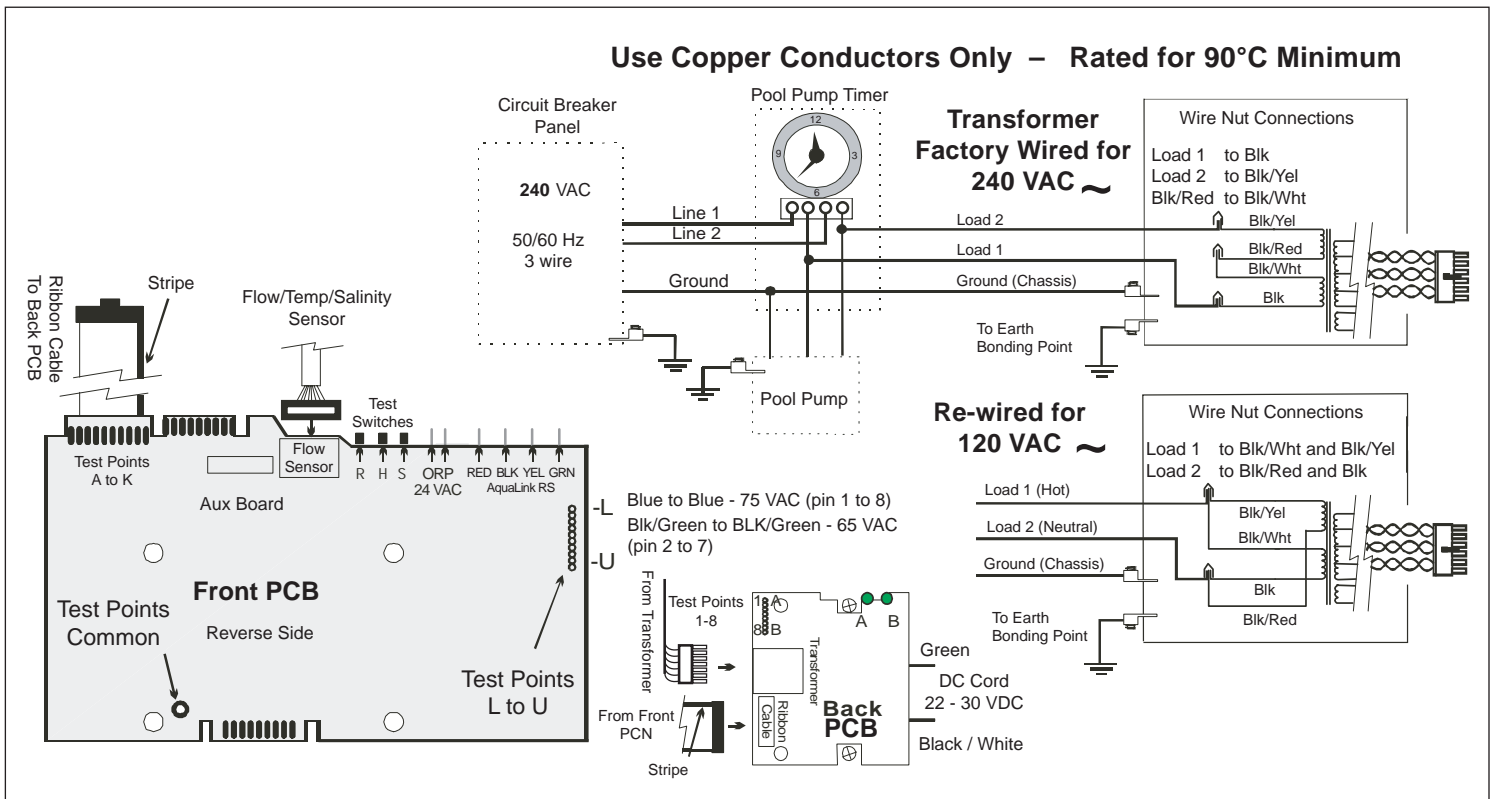

Figure 2. APURE700 and APURE1400 Wiring Diagram
Factory wired for 240 VAC service. If available electrical service is 120 VAC, the power supply wiring must be changed to operate on 120 VAC as shown in the wiring diagram below. (Figure 2.)
6. Check source voltage. (All units are factory wired for 240 VAC). ***In order to use on 120 VAC, the internal factory wiring of the control center must be changed. (See wiring diagram page 6 Figure 2).***
7. Use #12/3 insulated wire and conduit. Wire control center transformer to pool pump power source. The control center should be connected to the pump motor switch or automatic timer (Pool Pump Timer) as shown in the diagram on page 6 Figure 2. ***The flow portion of the Flow/Temp/Salinity Sensor is a backup device only.*** Attach the third wire (**Ground**) from the electrical panel to the ground point inside the Control Center. ***Earth bonding in Section 3.4 must also be accomplished to ensure personal safety and safety of equipment.***
7. Feed the connector end of the Flow/Temp/Salinity Sensor cable through the DC cord strain relief fitting located in the bottom of the control center chassis backplate. ***Be certain the connector is clean and dry***, then plug the cable into the connector on the control center Printed Circuit Board as shown on page 6 Figure 2. ***(Do not pull Flow/Temp/Salinity Sensor cable too tight, allow a little slack).***
9. Connect the DC cord to the control center. Feed the DC cord through the same strain relief fitting as the Flow/Temp/Salinity Sensor. Plug the DC cord into the two push-on connectors located on the control center Printed Circuit Board as shown in Figure 2 on page 6.
12. If disconnected, plug the ribbon cable attached to the front cover PC board into Printed Circuit Board mounted on the backplate (See page 6 Figure 2). Now reattach the control center front cover to the backplate.